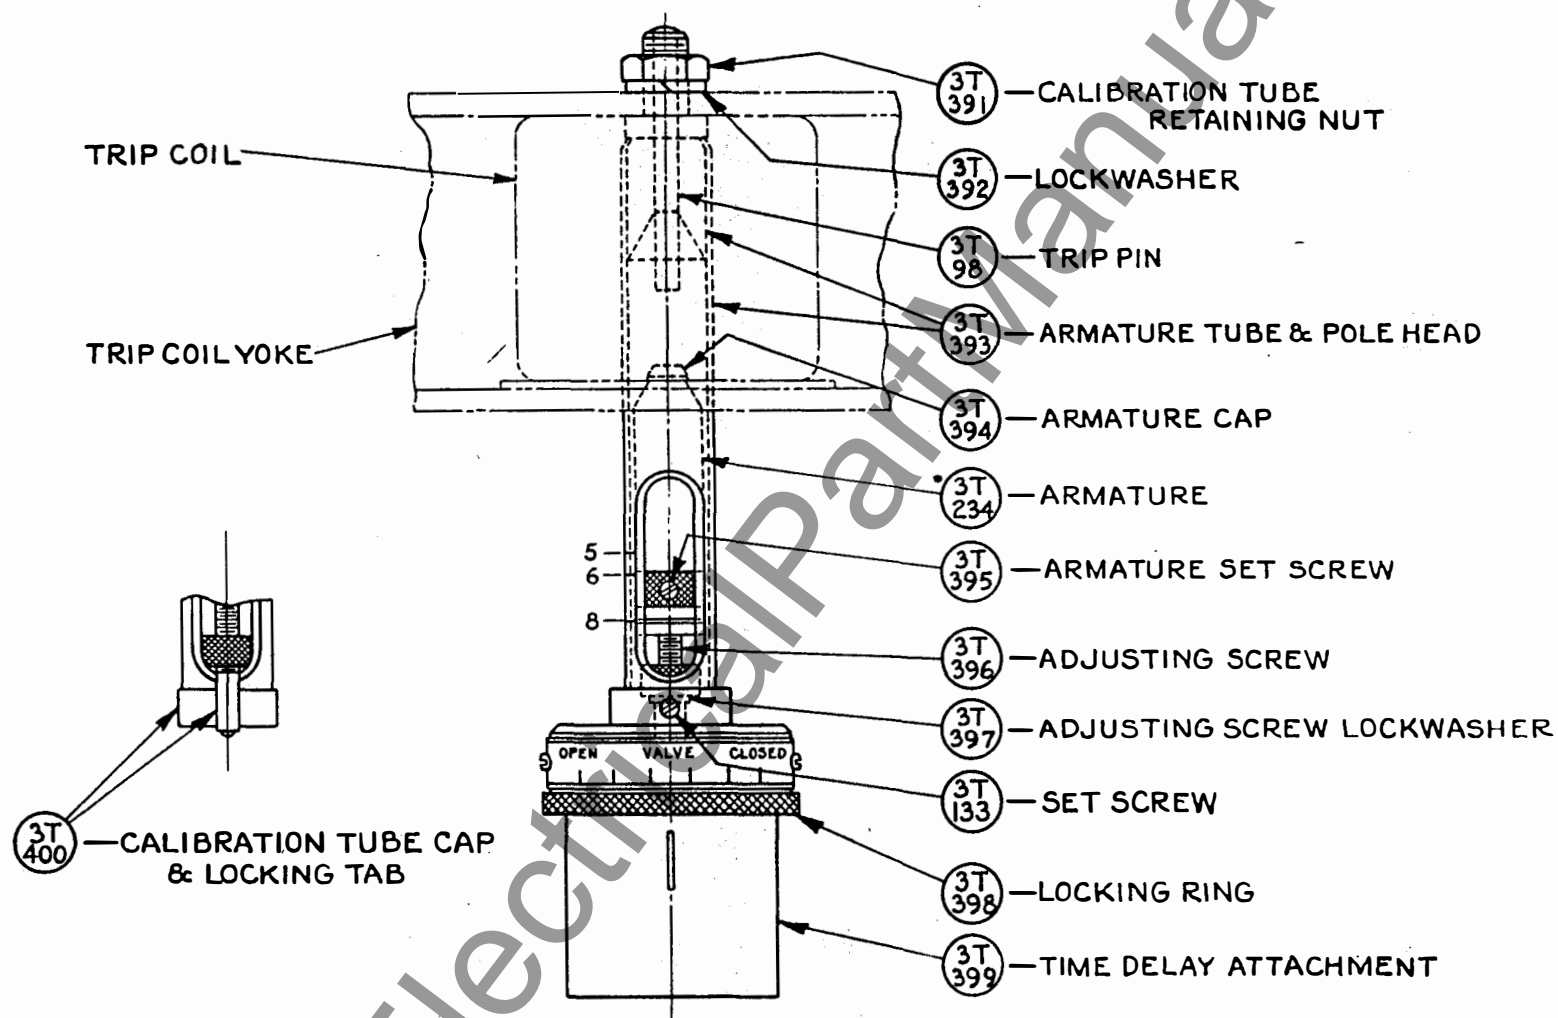

FIG. 8
CALIBRATION ADJUSTMENT (REF. FIG. 8)
26. Referring to Fig. 8, loosen screw (3T-395) and thread armature (3T-234) up or down on rod (3T-396) until the white line corresponds to the calibration desired. Bend tab (3T-410) into pocket to prevent loosening.
INSTALLATION OF NEW CALIBRATION TUBE AND TRIP PIN (REF. FIG. 8)
TIME LIMITS (REF. FIG. 8)
32. The time limits may be adjusted for different settings by turning the dashpot through a small angle. The maximum time setting is obtained when the vertical line on the dashpot is opposite the word "closed" on valve scale, (See Fig. 8) and the minimum when it is opposite the word "open". Any intermediate time setting may be obtained by turning the dashpot (37-399) to a corresponding point.